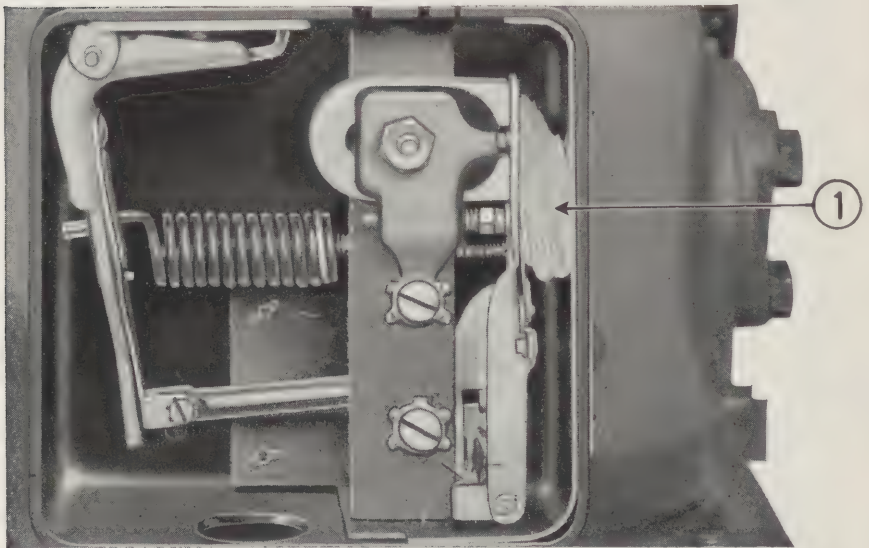

Figure 18. Blocking the low pressure control.
- (3) Remove the valve stem cap.
- (4) Close the valve.
- (5) Operate the compressor continuously until the pressure indicated on the compound gage is zero. IT WILL BE NECESSARY TO BLOCK THE LOW PRESSURE CONTROL CONTACT POINTS BY REMOVING THE CONTROL COVER PLATE AND WEDGING A PIECE OF WOOD BETWEEN THE INNER CASE OF THE CONTROL AND THE CONTACT ARM AS INDICATED IN FIG 18.
- (6) Permit compressor to stop. The pressure on the compound gage will rise.
- (7) Operate the compressor intermittently until the pressure is stationary at 1 pound when the compressor is not operating.
- (8) Front seat the discharge service valve.
- (9) Front seat the suction service valve.
- (10) The system is now pumped down and the refrigerant is isolated in the liquid receiver tank and the condenser.
the inner case of the control and the contact arm as indicated in fig 18.
- (3) Remove the lower gage plug and install the compound gage (screw in gas tight).
- (4) Turn the suction service valve 2 complete turns (clockwise).
- (5) Front seat the discharge service valve.
- (6) Remove the lower gage plug.
- (7) Allow the compressor to operate continuously until the suction pressure indicates 20 inches of vacuum on the compound gage. IT WILL BE NECESSARY TO BLOCK THE LOW PRESSURE CONTROL CONTACT POINTS BY REMOVING THE CONTROL COVER PLATE AND WEDGING A PIECE OF WOOD BETWEEN THE INNER CASE OF THE CONTROL AND THE CONTACT ARM AS INDICATED IN FIG 18.
- (8) With a 20-inch vacuum maintained permit the unit to operate for a period of 20 minutes, assuring the removal of all air from the system. During this period, the trapped air in the system is being discharged through the gage plug opening in the discharge service valve to the atmosphere.
- (9) After operating the unit for the time specified above, reinstall the gage plug in the discharge service valve, and at the same time, remove the wooden wedge from the low pressure control. With the wedge removed, the deep vacuum now maintained will allow the contact points on the low pressure control to open, breaking the electrical circuit to the motor stopping the unit.
- (10) Back seat both the suction and discharge service valves.
- (11) Reinstall cover on low pressure control.
- (12) Remove upper gage plug from the suction service valve, and charge the system with Freon 12 refrigerant as outlined in par 44.